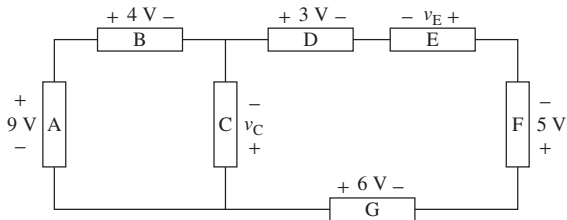

FIGURE P2.32 Circuit for Problem 2.32.
2.32 (A) Find v_C and v_E in Figure P2.32: